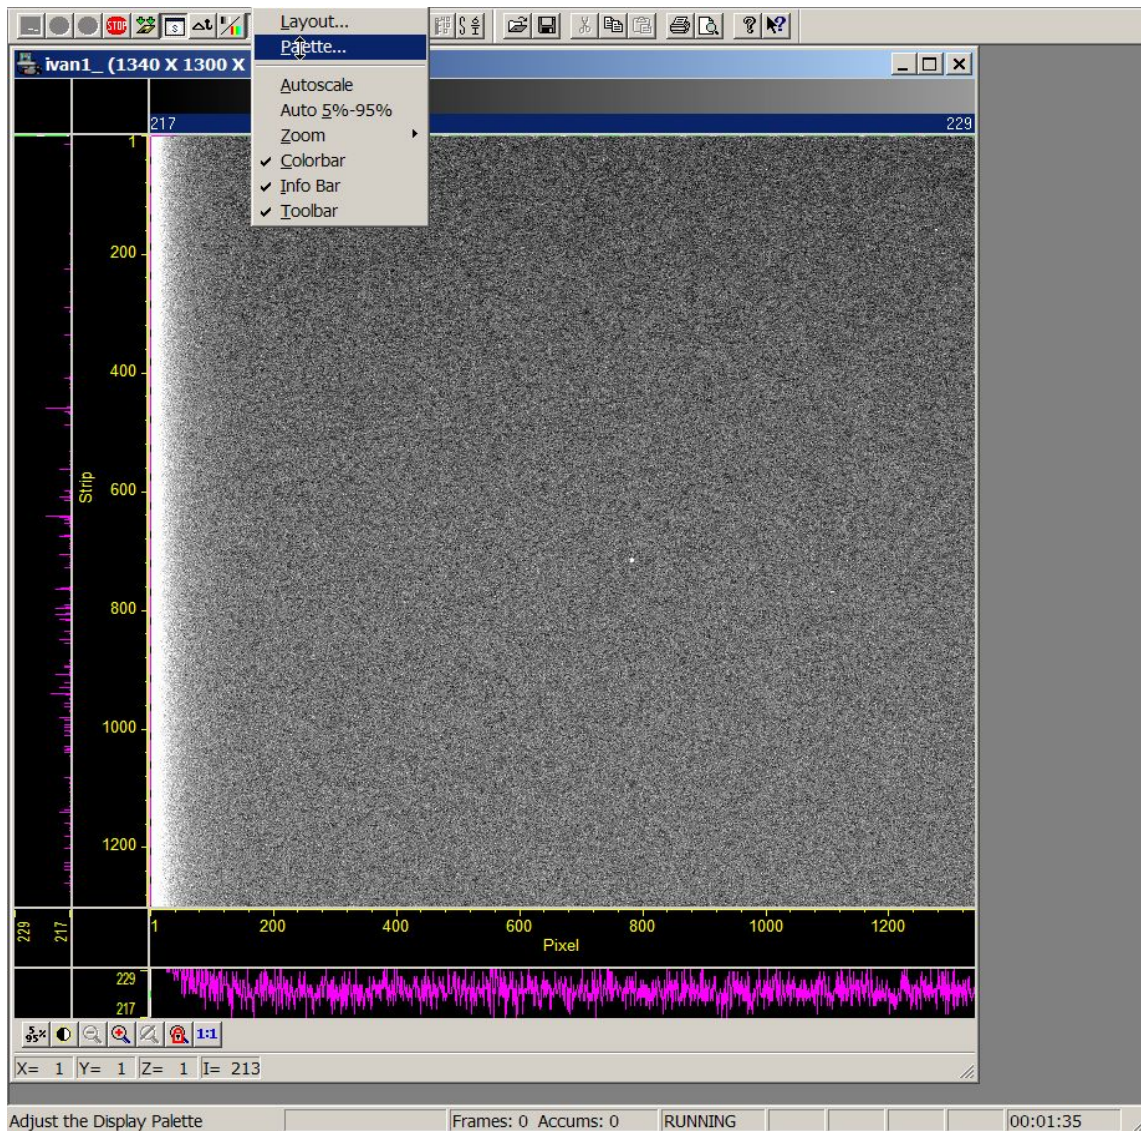

Figure 23
- click on “Display” on the menu bar of the “Winview” window, and select “Palette...” as shown in Figure 23.